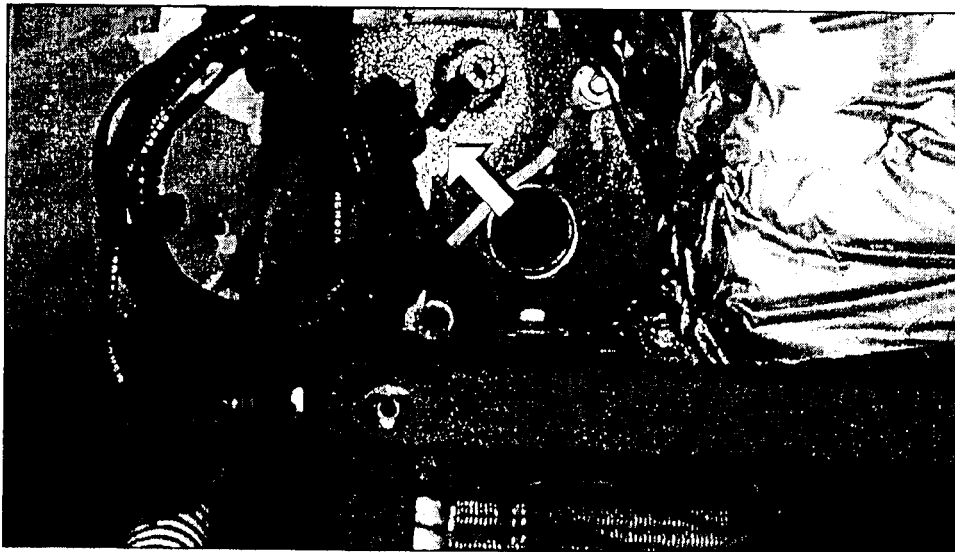

Figure 3.
6. Remove the rubber boot from the positive terminal stud (Figure 3). Remove the positive and negative wires from the studs. Remove and retain all mounting hardware.